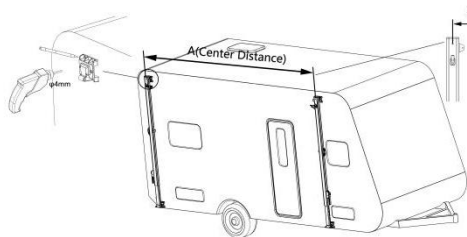

Figure C3
3.1 Take out the left and right support rod assemblies and lower installation brackets. Mark the hole positions at appropriate locations on the outer side of the vehicle body according to the center distance A of the support rods, and drill suitable $\phi 4$ installation holes in the vehicle body. (Figure C3)